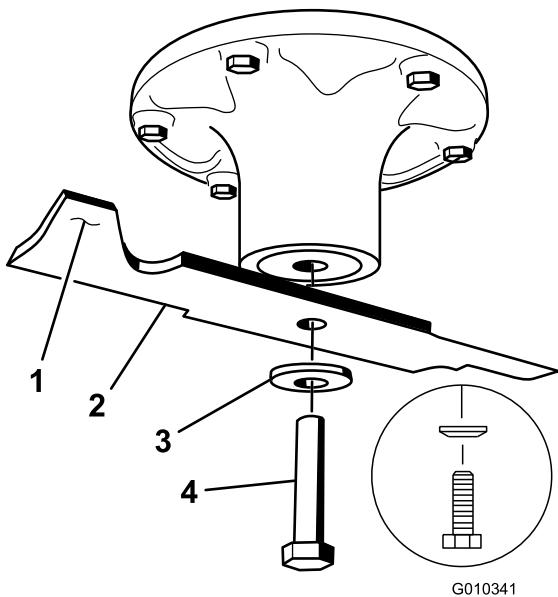
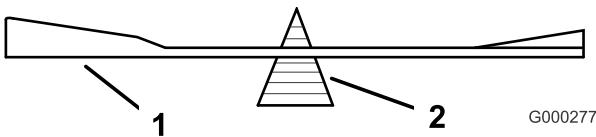

Figure 66
Figure 68
Hold the blade end using a rag or thickly-padded glove. Remove the blade bolt, curved washer, and blade from the spindle shaft (Figure 66).
1. Install the blade onto the spindle shaft (Figure 66).
2. Install the spring disk and blade bolt. The spring disk cone must be installed toward the bolt head (Figure 66). Torque the blade bolt to 100-110 ft-lb (135-150 N·m).
2. Check the balance of the blade by putting it on a blade balancer (Figure 68). If the blade stays in a horizontal position, the blade is balanced and can be used. If the blade is not balanced, file some metal off the end of the sail area only (Figure 66). Repeat this procedure until the blade is balanced.